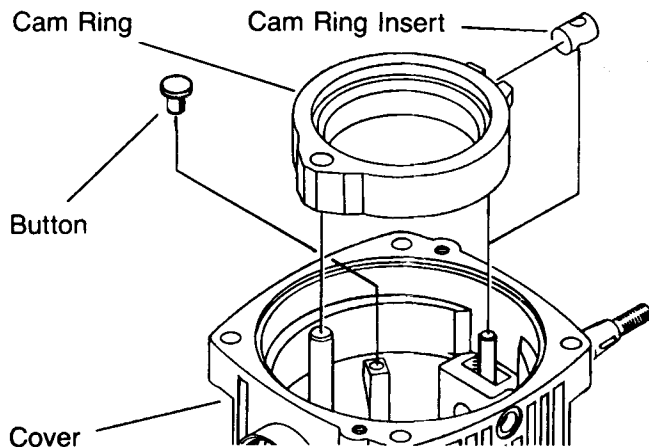

FIG. 59.
41. Install cam ring insert with hole away from cam ring as shown in Fig. 59.